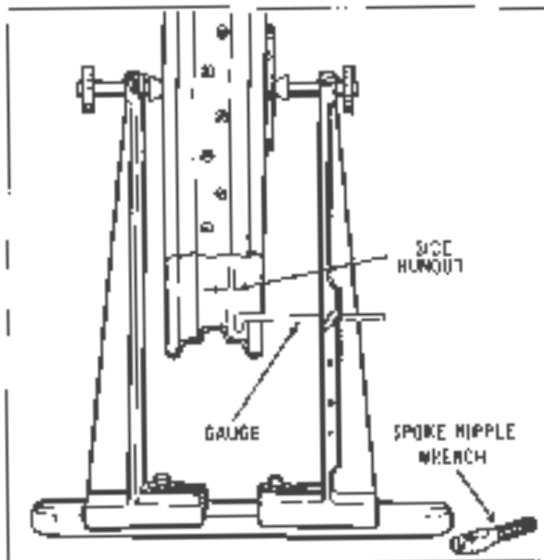

Figure 2-24. Truing Rim Sideways
6. Adjust truing stand gauge to side of rim well as shown in Figure 2-24 so rim at highest point will strike gauge as wheel is rotated slowly. Loosen nipples at highest point of rim on gauge side and tighten nipples on opposite side the same amount. Repeat this operation until rim runs true sideways. Reverse loosening and tightening of nipples as explained above if rim moves too far away from gauge. After each loosening and tightening of nipples, check rim in relation to hub as explained in above paragraphs. Rim should be trued to within 1/32 in. sideways runout.